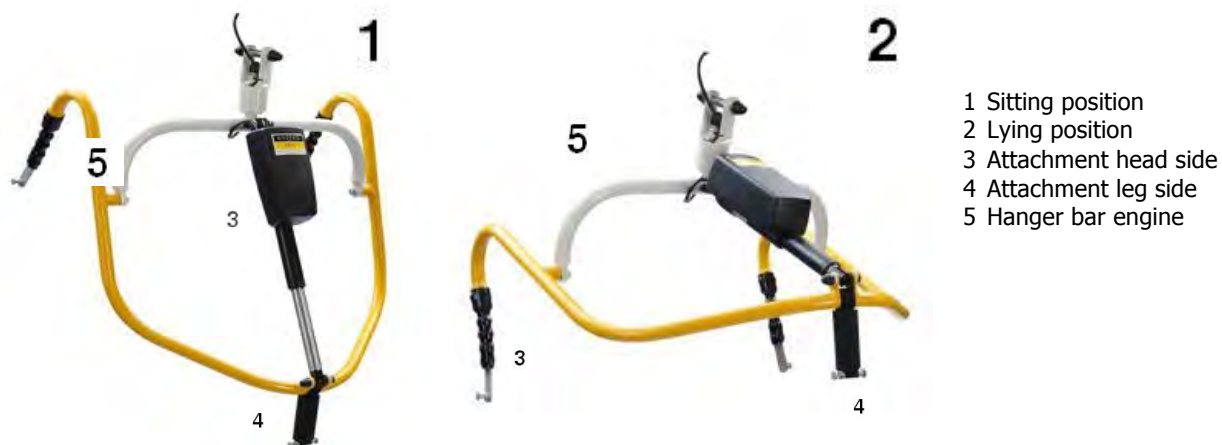

Figure 7a Sitting position hanger bar Figure 7b Lying position hanger bar
- When lifting from a chair, put the hanger bar in a sitting position (figure 7a page 9).